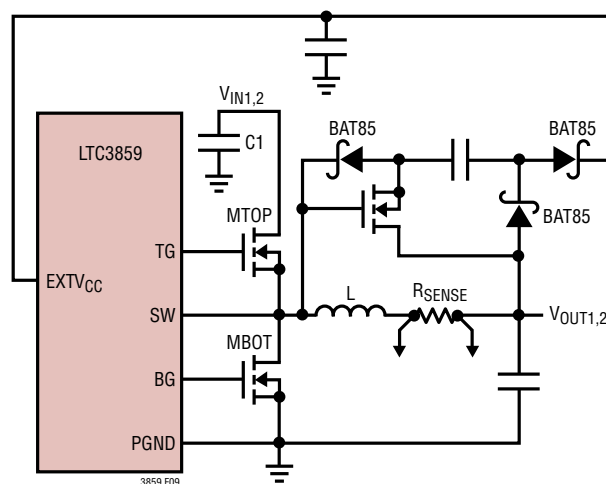

Figure 9. Capacitive Charge Pump for EXT_V_{CC}
4. EXT_V_{CC} connected to an output-derived boost network off one of the buck regulators. For 3.3V and other low voltage buck regulators, efficiency gains can still be realized by connecting EXT_V_{CC} to an output-derived voltage that has been boosted to greater than 4.7V. This can be done with the capacitive charge pump shown in Figure 9. Ensure that $EXTV_{CC} < V_{BIAS}$.